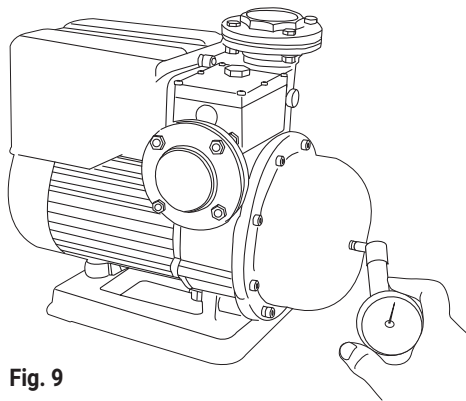

Fig. 9
4. Pressure tank air charge should be checked at regular intervals of every 6 months and after the pump has not been used for a prolonged period. To check the Pressure Tank air pressure, turn off power, open a tap on the discharge line to release pressure from the pump, unscrew the black plastic cover and apply an accurate pressure gauge to the valve as shown in Fig 9.